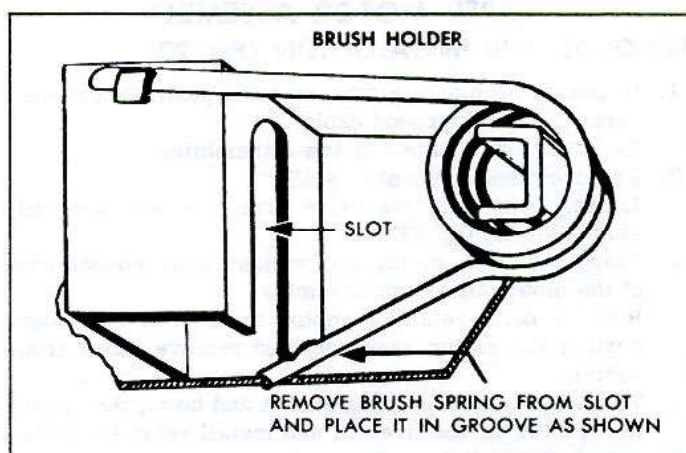

Fig. 33—Releasing Brush Spring Tension
2. Release brush spring tension (fig. 33), slide armature and end plate from motor frame. Pull end plate from armature.